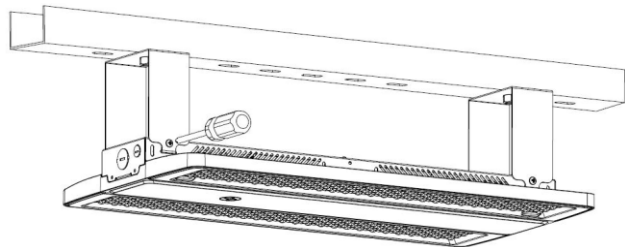

FIG.6
- 2 Attach the fixture to the bracket and secure it with screws. (Figure 6)